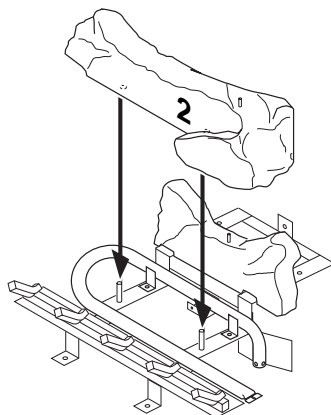

Figure 46 - Installing Log No. 2
2. Rest log #2 (large front log) on pins on front part of grate (see Figure 46).